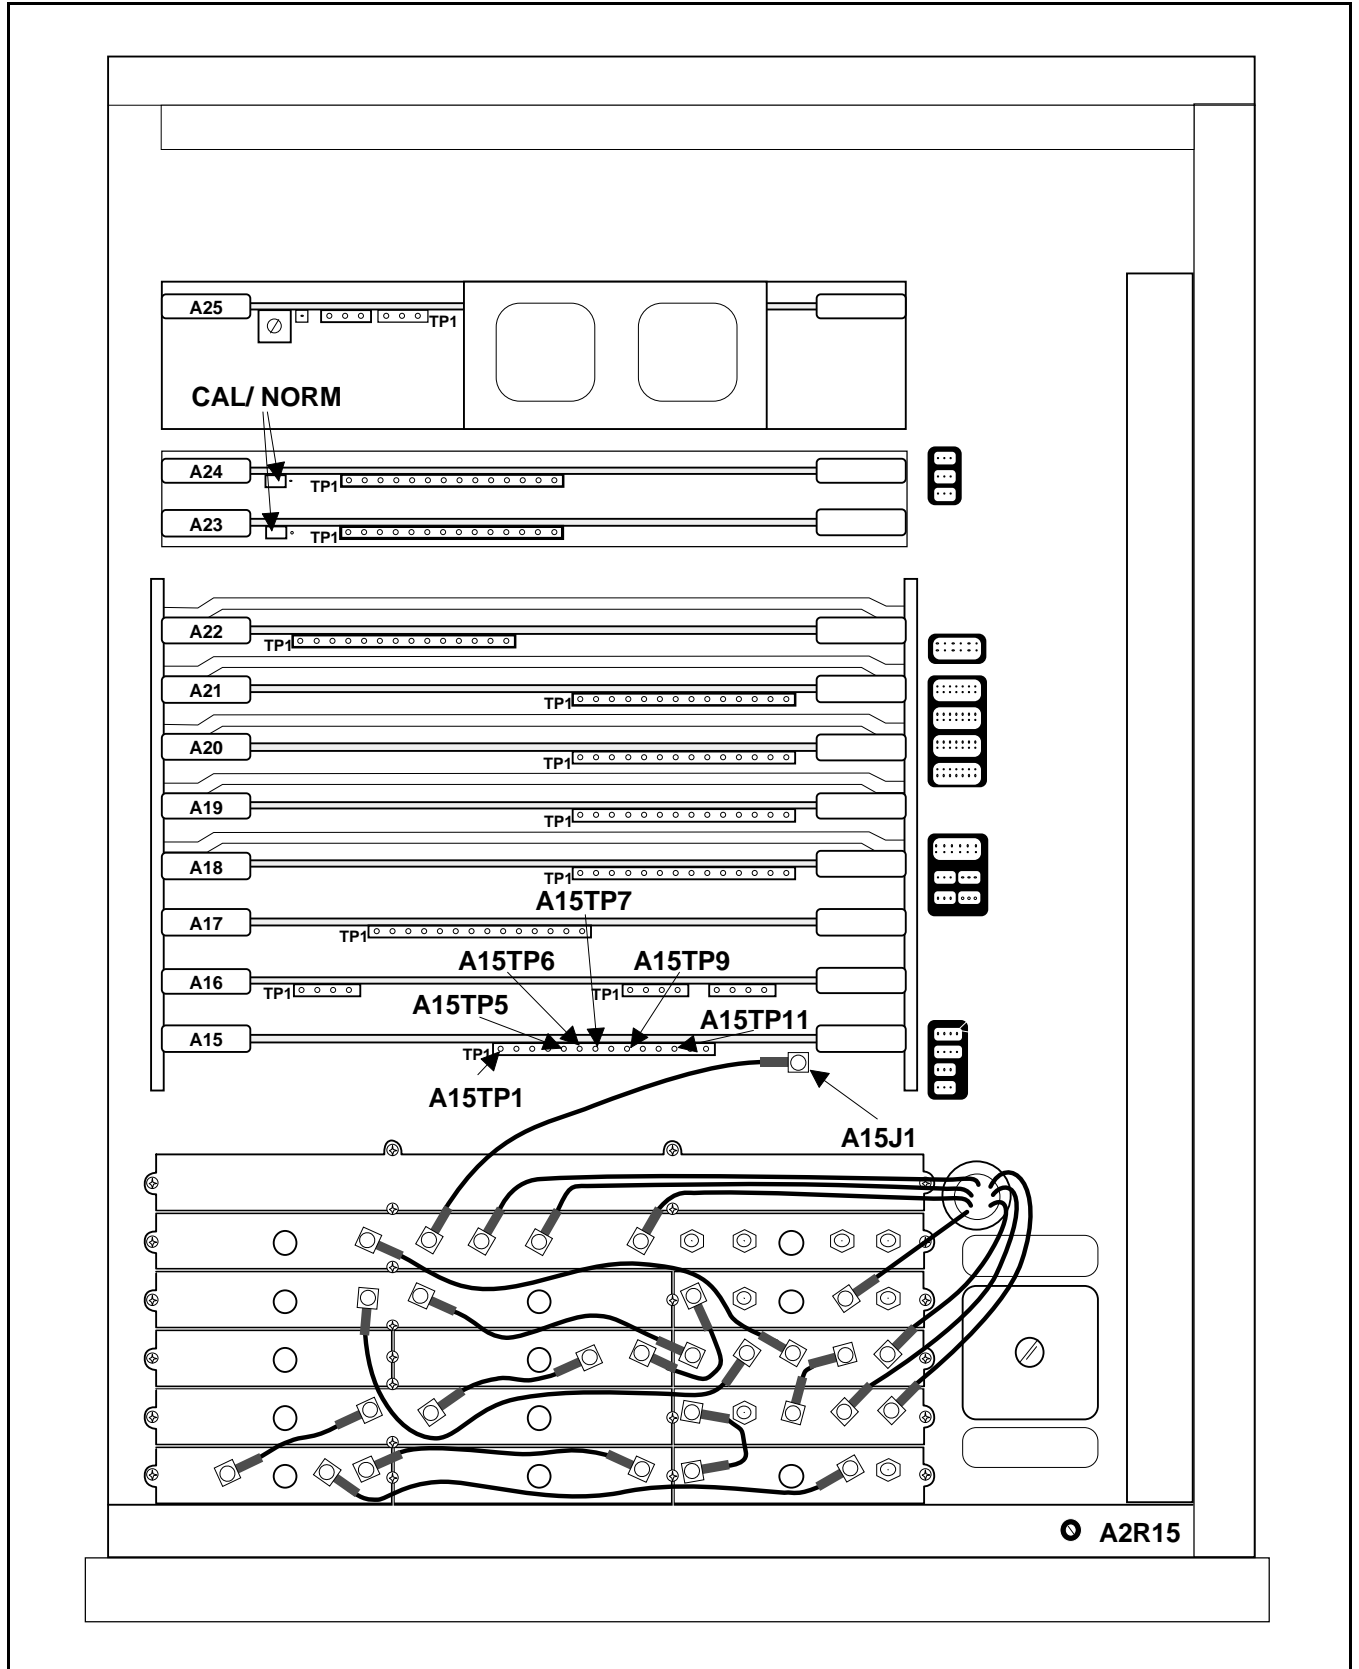

Figure 3-1. Top View of 67XXB Showing Adjustment, Connector, and Test Point Locations
2. Set the Digital Voltmeter (DVM) to read dc voltage and connect the (+) lead to the 67XXB test point A15TP6 and the (-) lead to the 67XXB test point A15TP1 (see Figure 3-1).
2. Connect the DVM (+) lead to 67XXB test point A15TP5 (see Figure 3-1).
2. Set the DVM to read dc voltage and connect the (+) lead to 67XXB test point A15TP9 and the (-) lead to 67XXB test point A15TP1 (See Figure 3-1).